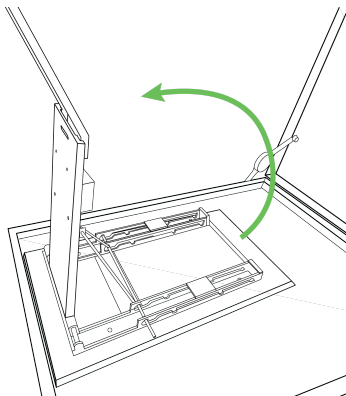

Figure 6-23. Installed kickstand in its upright position
5. Lift the kickstand into its upright position by grabbing the handle and pulling it forward (Figure 6-23).